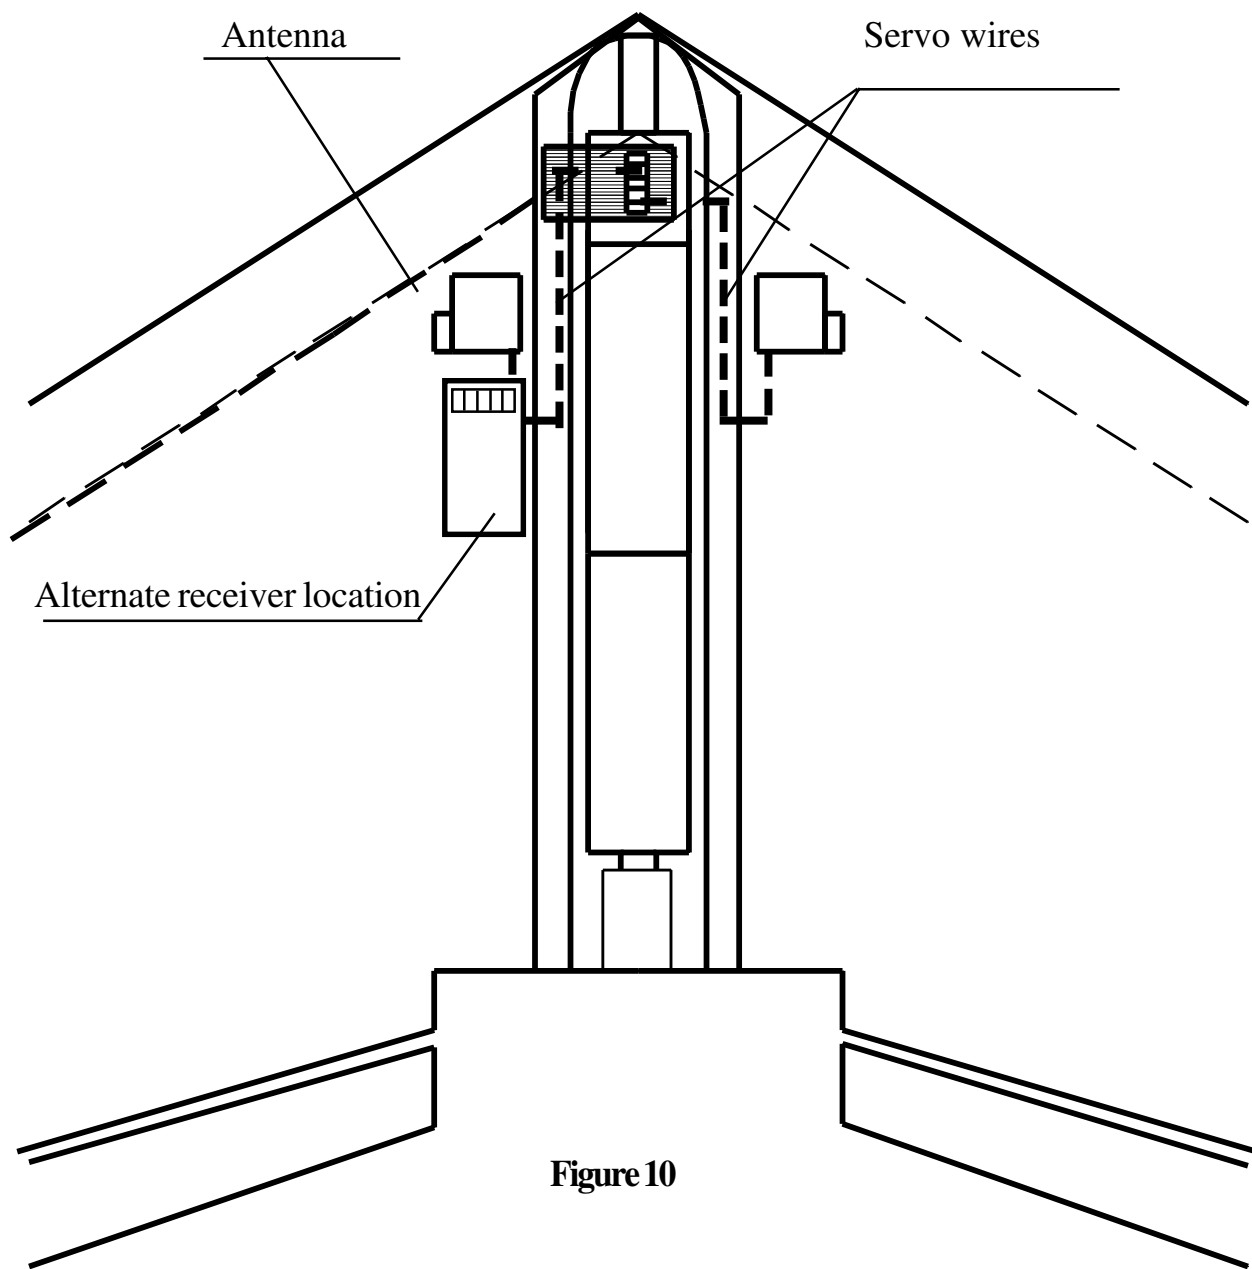

Figure 10
(See Figure 10) Position the servos on the pre-marked servo positions. Outline the exact shape. Cut or router the foam to provide a snug flush fit. Wood shims can be used to assure a tight fit.
NOTE: New flyers and combat pilots may choose to locate the receiver in a safer place. The nose mounted receiver is cleaner but more vulnerable to damage from the battery slamming into it in severe front impact. The alternate receiver location in figure 10 will not affect the ballance in any direction. The wing thickness will accomodate almost any size receiver.
(See Figure 10) Install the antenna along the leading edge seam between the two types of foam. Cut a 1/4" slot in the seam between the receiver (RX) and the wing tip. Push the antenna into the slot with a flat blade screwdriver. The antenna will extend several inches beyond the tip. Before securing the servos in place make sure that the servo arms are in the correct position. Position the two servos on the table in the proper orientation as they would be installed on the plane and connect to the receiver. Turn on the transmitter (TX) and connect a spare 4.8 V battery to the (RX). The TX should be in the elevon or mixing mode. Check the radio instruction manual for the "Elevon mixing or Delta mixing settings". Set the trim levers on the TX to zero. Install the servo arms as close to vertical as you can get. Make sure that both arms move forward when the TX stick is pulled back. Move the TX stick to the right. The servo arm on the right should move forward as the one on the left moves back. Reverse the controls in the TX as necessary. Push the servos into the servo bays. Apply a piece of color tape over the servos to hold them in place.